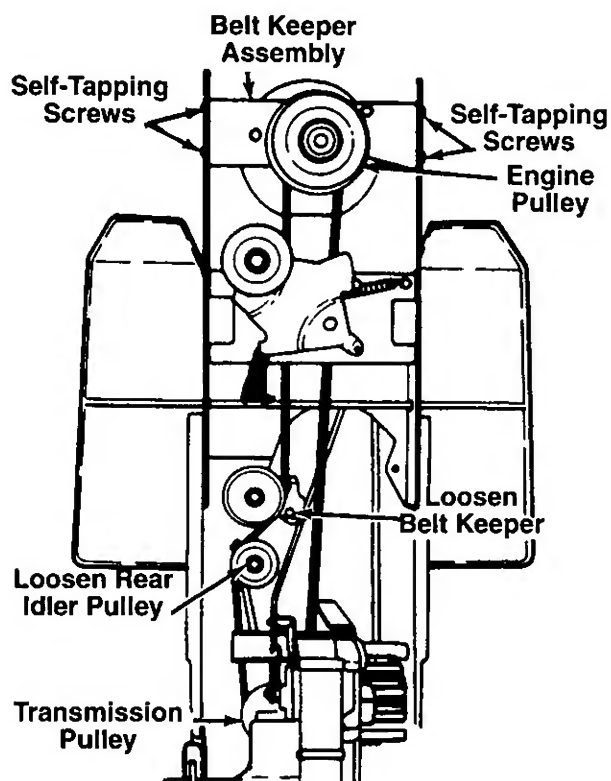

FIGURE 26.
DRIVE BELT (See figure 26)
4. Remove the four self-tapping screws which hold the belt keeper assembly to the frame at the engine pulley. Push the belt keeper assembly forward, out of the way. See figure 26.